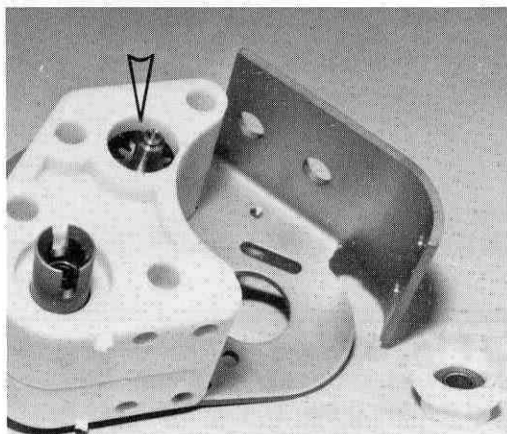

Fig. 89
- Fig. 89** Oil and install the adaptor onto the dif shaft.